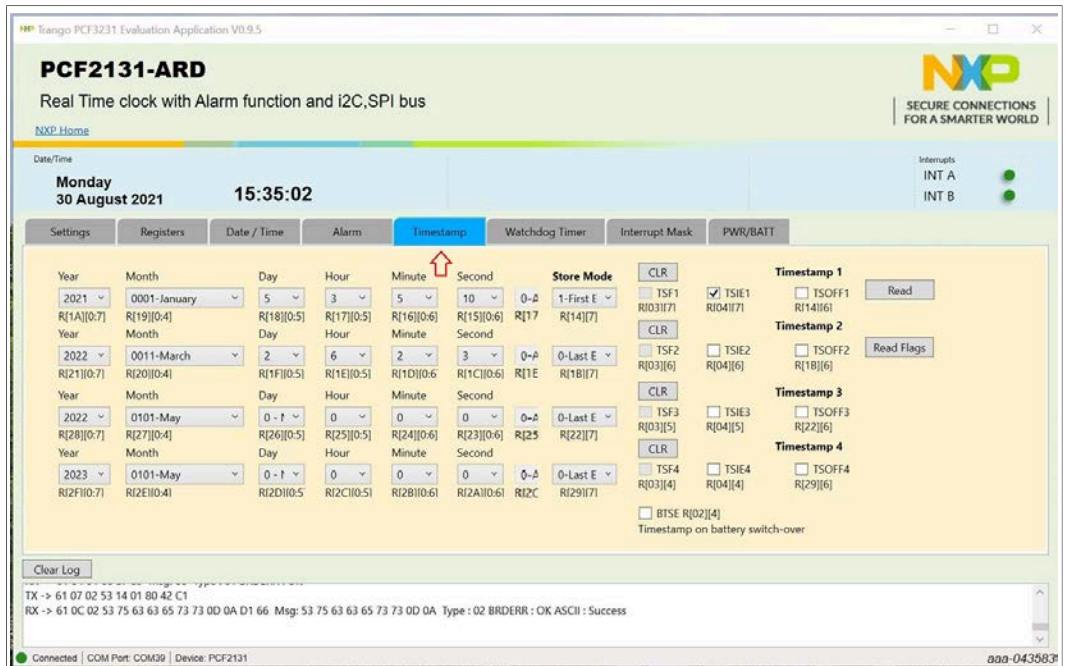

Figure 19. Graphical interface – “Timestamp” tab activated
- **Timestamp:** Figure 19. See the datasheet for more details regarding timestamp functions of PCF2131 RTC.